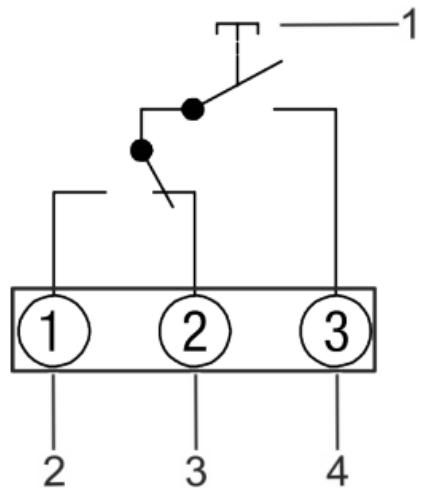

Fig. 4: Wiring diagram
4. Thread the connection wires into the device through the cable feed-through (Fig. 4/7).
5. Insert the connection wires into the corresponding terminal in accordance with the wiring diagram (Fig. 4) and tighten them.
6. Insert the connection wires into the corresponding terminal in accordance with the wiring diagram (Fig. 4) and tighten them.